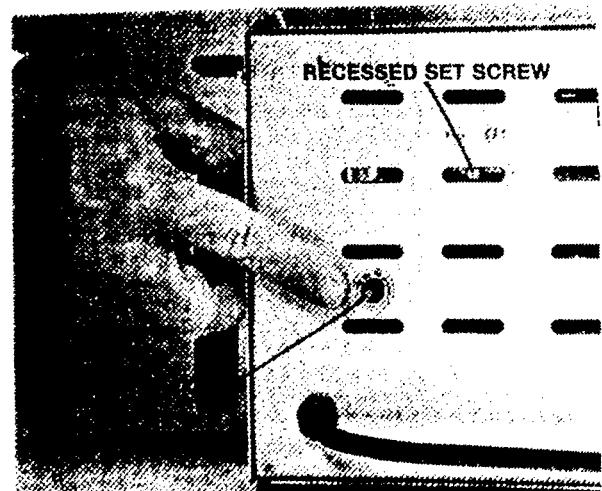

Figure 4
NOTE: Holding pinch clamp switch in up position for six seconds or longer may result in tripping circuit breaker. Reset circuit breaker. See figure 4.
- 2. Depress red circuit breaker switch on back of pump unit and release. See figure 4, p.4.
1. Adjust recessed set screw (see figure 4, p.4) with a screwdriver on back of pump unit for activation sensitivity.